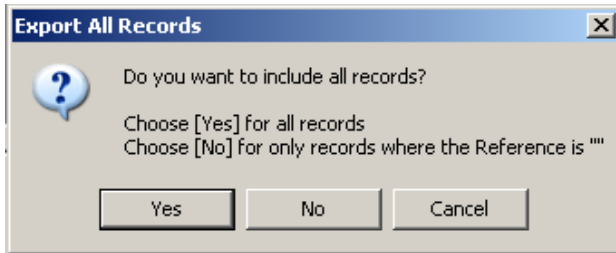

Figure 41: Select Yes or No
7. Select either **Yes** or **No** when asked if you want to include all records (Figure 41).